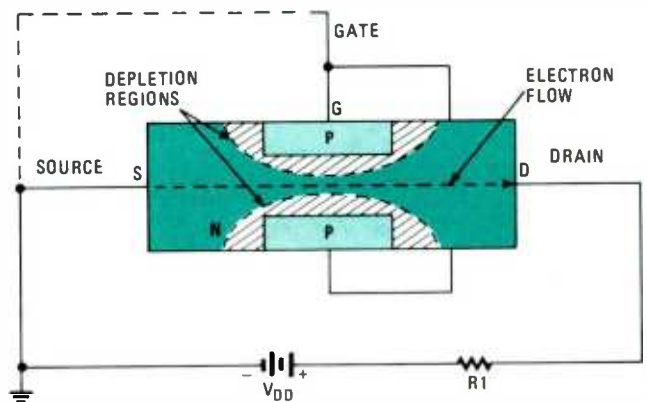

Fig. 21—The gate element of a field-effect transistor controls the source-to-drain current.
46. (source, drain) To control the source-drain (S-D) current, a third element called a *gate* is added to the bar (as shown in Fig. 21). P-type semiconductor material is diffused into the N-channel bar, forming a PN junction. In Fig. 21, it appears as though two PN junctions exist, but because the two P-type areas are electrically connected, only one junction